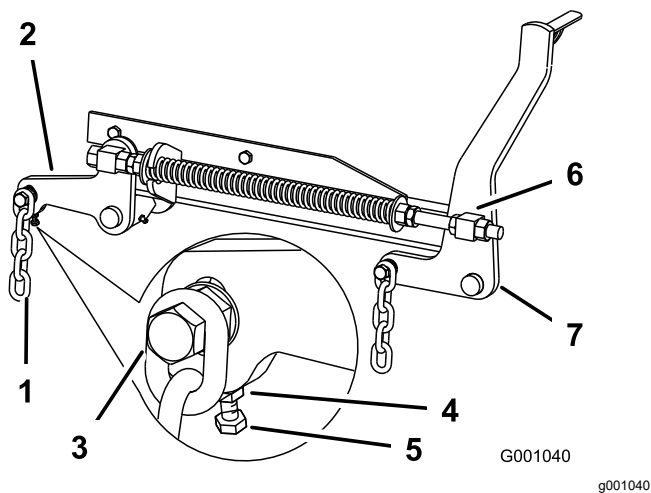

Figure 111
7. If the measurements at positions **B** or **C** are not correct, loosen the bolt attaching the rear chain to the rear-support arm (Figure 111).
8. Loosen the jam nut under the rear-support arm and adjust the adjustment bolt to get a measurement of 80 to 83 mm (3-1/8 to 3-1/4 inches); refer to Figure 111.
7. Loosen the front swivel jam nuts, at the front of the right and left swivels, approximately 13 mm (1/2 inch) (Figure 111).
8. Adjust the lift nuts on both the left and the right side of the machine to achieve 6 to 10 mm (1/4 to 3/8 inch) lower in front at **A** than in the rear at **B** (Figure 111).